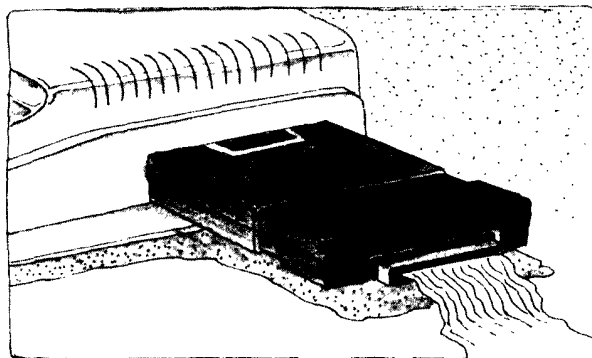

Figure 2. Connecting a Modem to the RS-232 Program Pak
2. Plug the other end of the RS-232C cable into the Deluxe RS-232 Program Pak's RS-232C connector. See Figure 2.